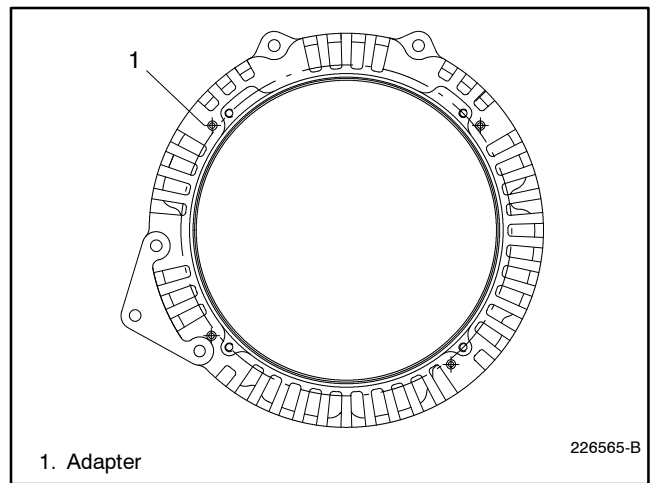

Figure 6-10 Engine Adapter
21. Remove two bolts securing lifting eye to adapter/engine. Remove lifting eye and adapter. See Figure 6-10.